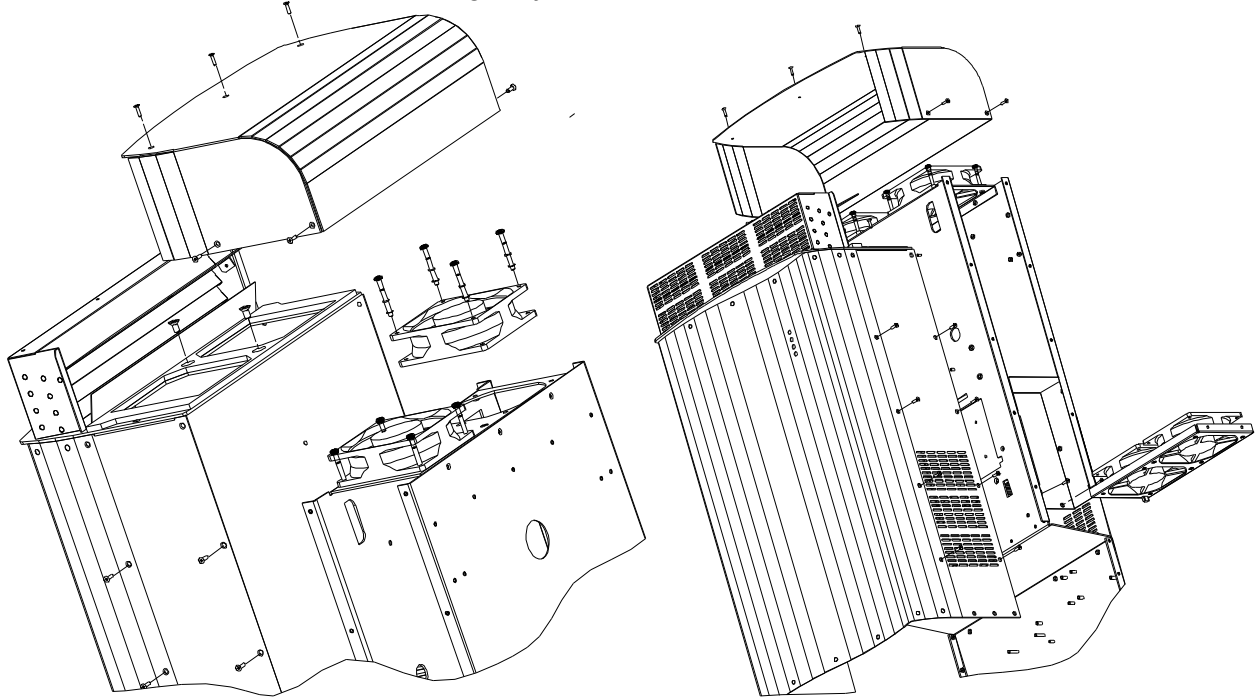

Figure 21: Top cover removal and fan replacement
2. Remove two screws on each side of the fan tray assembly (right side, Figure 21)